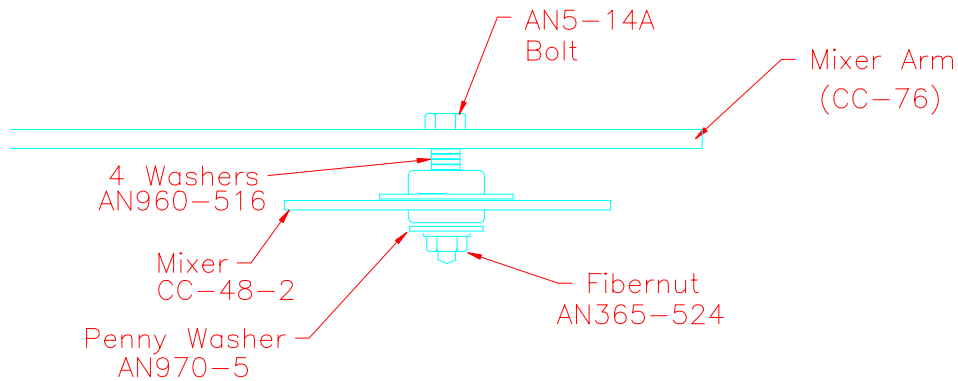

Figure 15.7.11
- 19) Attach the mixer assembly to the mixer arm with an AN5-14A bolt, 4 AN960-516 washers, one AN970-5 penny washer and one AN365-524 fibernut. Figure 15.7.11.